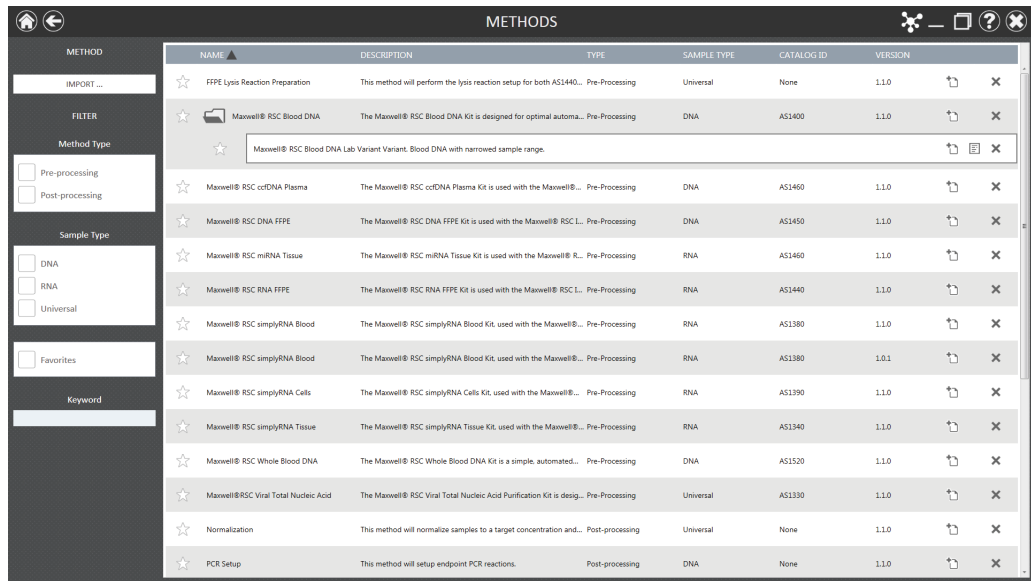

Figure 17. Appearance of variant methods. Administrator 'Methods' screen showing an expanded method folder with a variant method.
- Once all changes have been applied, select the **OK** button to save the variant method. New variant methods will be added to the list of variant methods in the folder (Figure 17).